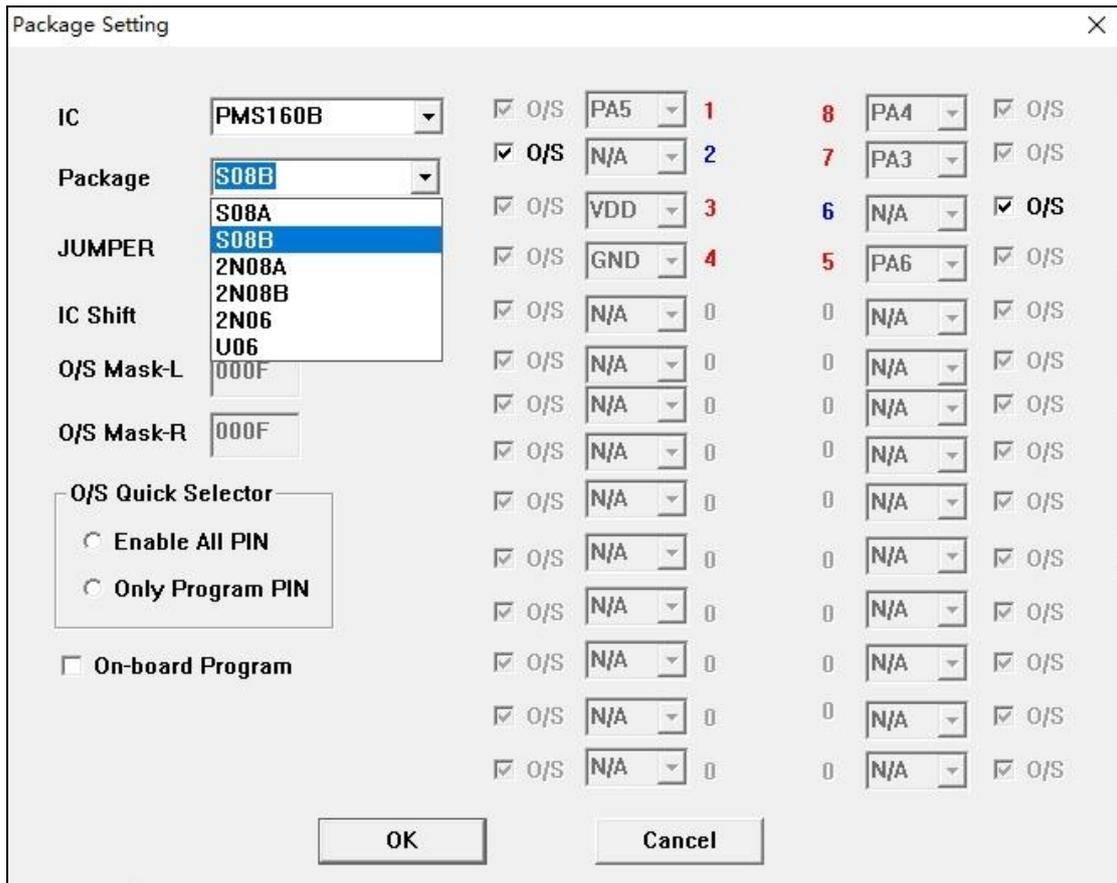

Fig. 28: PMS160B-S08B package setting when using P-003B
(1). For 5S-P-003B to write PMS160B-S08A, just use jumper2 and it needs downward four spaces on the Textool. Other packages need to convert the file and use jumper7. Taking the writing of PMS160B-S08B as an example, other packages only need to change the chip package and jumper7 connection in the “package setting” interface. The package settings are shown in figure 28: